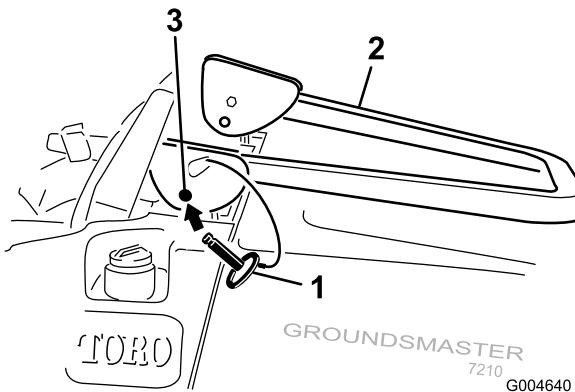

Figure 11
- Lower the roll bar to the down position (Figure 11).